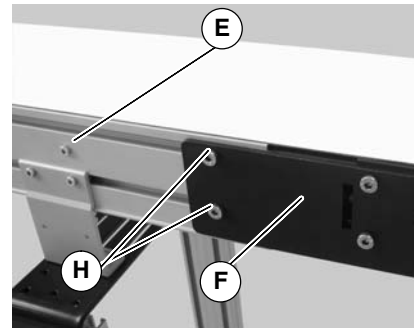
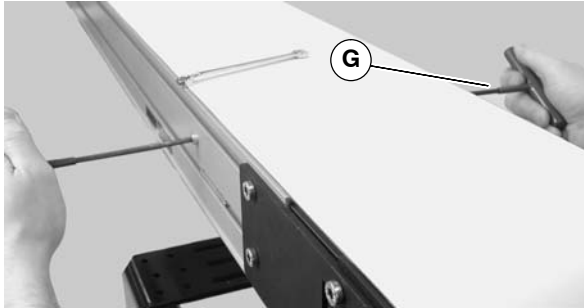
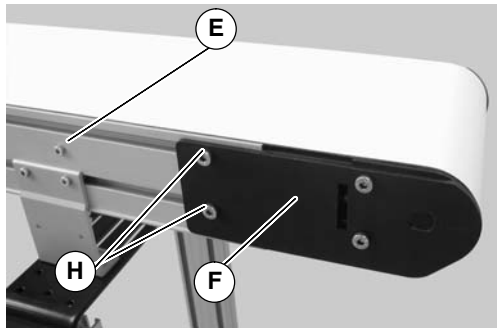
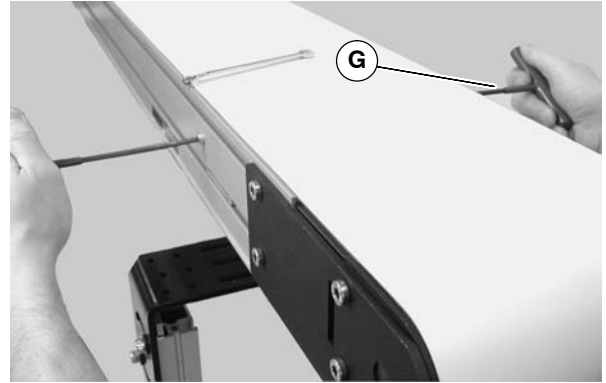

Figure 8
Figure 9
Figure 28
Figure 29
- On tension end of the conveyor, identified by the pinion locking screw (E of Figure 8), loosen the two tail clamp bolts (H), on both sides of conveyor.
- With 5mm hex wrench, hold pinion torque screw (G of Figure 9). Loosen the pinion locking screw (E of Figure 8) and turn the pinion torque screw (G) to extend head plate assembly.
11. After adjusting proper tensioning, tighten the pinion locking screw (E of Figure 8) to 69 in-lbs (7.8 N-m), and tighten tail clamp bolts (H of Figure 8) on both sides of conveyor to 146 in-lb (16.5 N-m).
13. On tension end of the conveyor, identified by the pinion locking screw (E of Figure 28), loosen the two tail clamp bolts (H), on both sides of conveyor.
14. With 5mm hex wrench, hold pinion torque screw (G of Figure 29). Loosen the pinion locking screw (E of Figure 28) and turn the pinion torque screw (G) to extend head plate assembly.
16. After adjusting proper tensioning, tighten the pinion locking screw (E of Figure 28) to 69 in-lbs (7.8 N-m), and tighten tail clamp bolts (H of Figure 8) on both sides of conveyor to 146 in-lb (16.5 N-m).